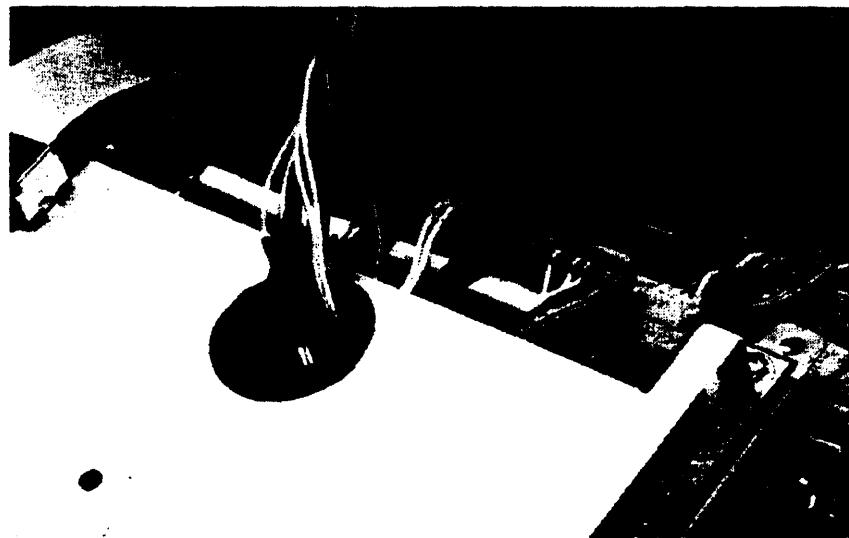

Figure 6-6. Grommeted Hole in Logic B Shield
6. There are four printer-mechanism cables that pass through the grommeted hole in the shield (see figure 6-6). Disconnect these cables from the logic B PCA, but don't remove them from the grommeted hole.
When you reconnect the four printer-mechanism connectors to the logic B PCA, make sure that the printer cables are properly oriented. *The connectors are keyed. Install them as shown in figure 6-6.*
Be sure that the printer cables are pulled tightly through the grommeted hole in the shield. The wires as they come out of the connectors in the open space below the shield must lie flat on the PCA so as not to interfere with the fan (see figure 6-6).